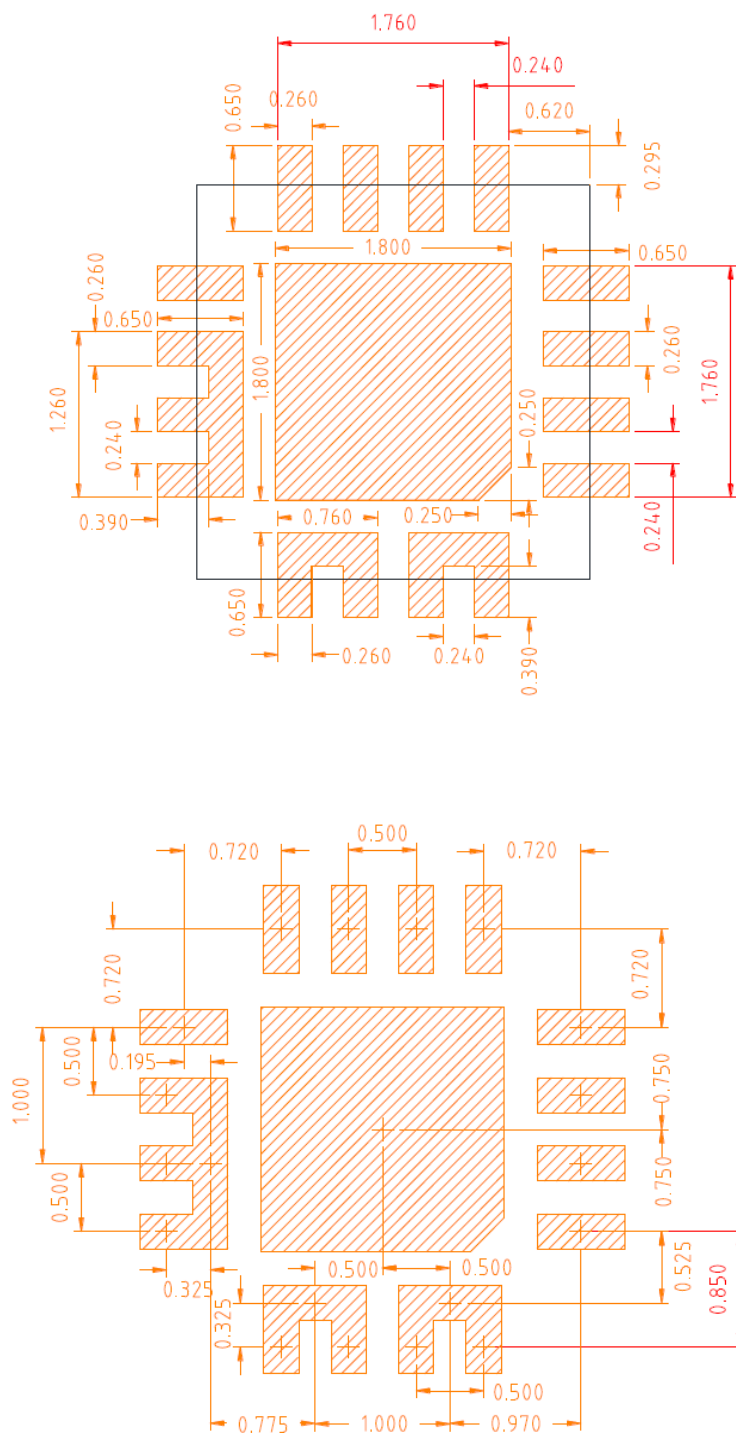

Figure 8-5 PCB metal pad sizing and spacing (all dimensions in mm)
3.1 09-07-21	• Updated Figure 8-5 • Changed "12V" to "5V" in the title of Table 5-6